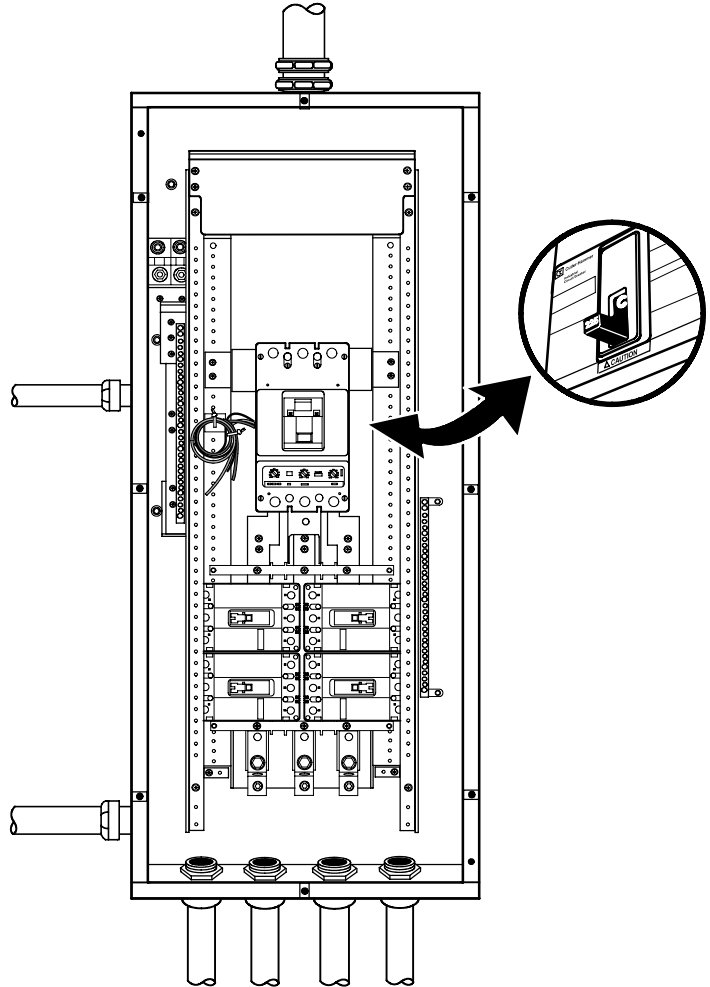

Figure 4. Tie Cabinet Bypass Breaker
8. Verify that the Tie Cabinet bypass breaker is in the OFF position (see Figure 4).